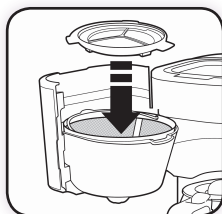

Figure 15
- 6 If included, place the Water Filtration Disk with Frame on top of the Removable Filter Basket. (Refer to the USING THE WATER FILTRATION SYSTEM section). (Figure 15) **Note:** Water Filtration Frame must sit flat on the top of the Removable Filter Basket.